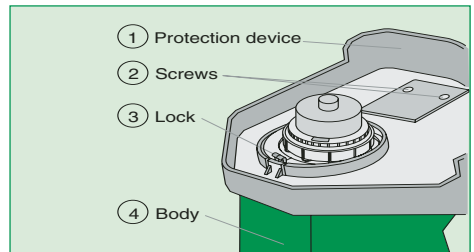

Fig. 1
- ✓ TRAPP trimmers or lawn mowers are already assembled when delivered with the exception of the protection device. It is conditioned together with the equipment in the same package. To assemble it, turn the trimmer or lawn mower upwards (Fig. 1)
- ✓ Place the protection device as per drawing, and fit it in lock (3) (Fig. 2). Press it to the body (4), put screws (2) in position and tighten them (Fig. 1).